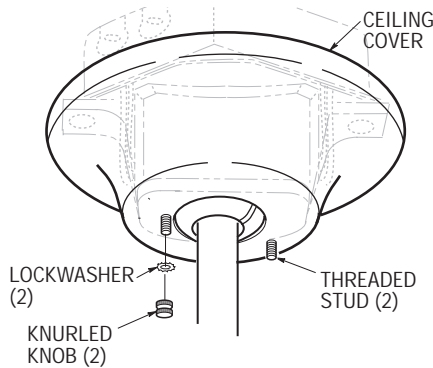

Figure 14
- 5. Lift the ceiling cover up to the threaded studs and turn until the studs protrude through the holes in the ceiling cover (Figure 14).
- 6. Secure the ceiling cover in place by sliding lockwashers (supplied) over the threaded studs and installing the two knurled knobs (supplied). (Figure 14). Tighten the knurled knobs securely until the ceiling cover fits snugly against the ceiling.